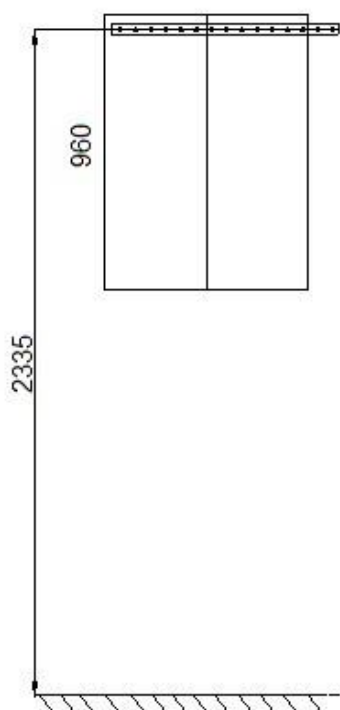
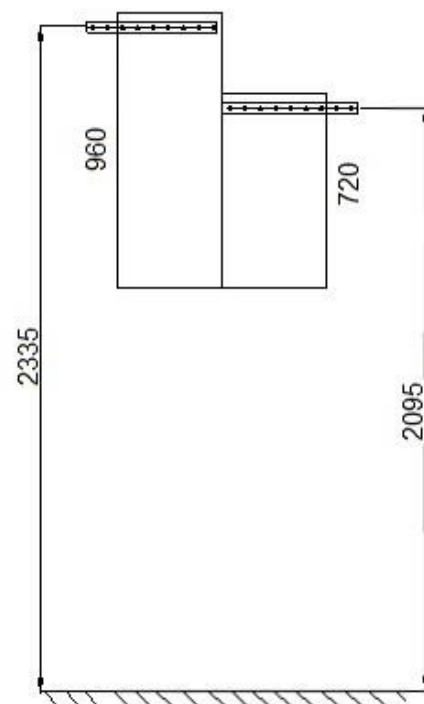

Fig. 13
Fig. 15
1. Mark out and fix the mounting rail. The mounting height depends on the height of upper wall cabinets, and can be single-level (Fig. 13, 14), or split-level (Fig. 15). The figures show standard heights from the floor to the hole centre in the rail, when the plinth height is 100 mm.